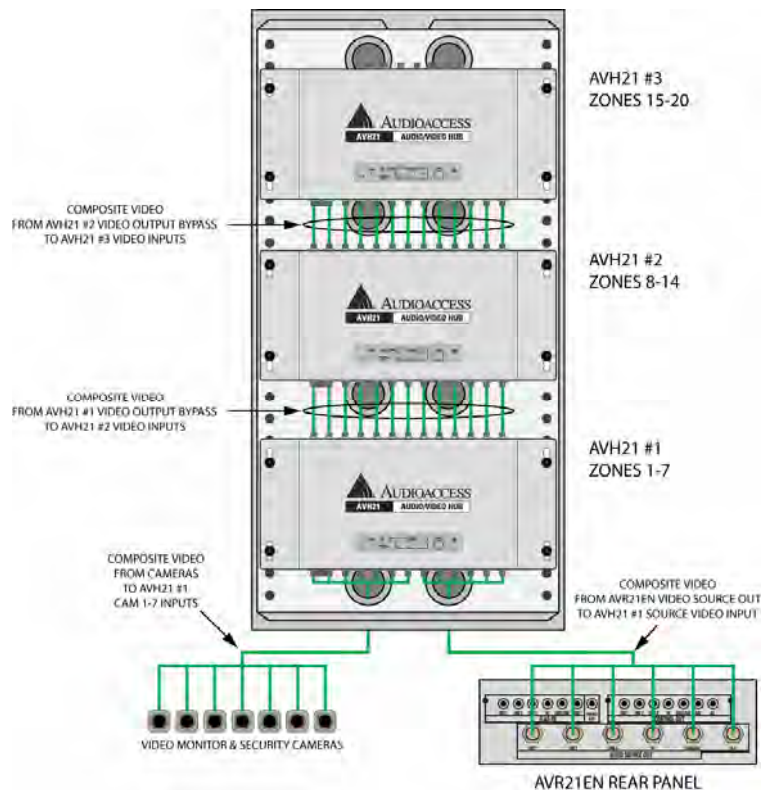

Figure 93 Source and Camera Video
1. Using RG6 Quad shield coaxial cable terminated with male F connectors, connect each of the **Video Source Out Terminals [circle 37]** on the AVR21EN Rear Panel to the appropriate **Source Video Input [pentagon 8]** on the AVH21 as shown in **Figure 93**.
2. In larger systems, complete step 1 above by connecting the **Video Source Outs [circle 37]** on the AVR21EN to the appropriate **Source Video Inputs [pentagon 8]** on AVH21 #1 as shown in **Figure 93**.
- a) Using short lengths of RG6 coax, connect each of the **Source Video Output Bypass Terminals [pentagon 1]** on AVH21 #1 to the appropriate **Source Video Input [pentagon 8]** on AVH21 #2 as shown in **Figure 93**.
- b) If using three Hubs, connect each of the **Source Video Output Bypass Terminals [pentagon 1]** on AVH21 #2 to the appropriate **Source Video Inputs [pentagon 8]** on AVH21 #3 as shown in **Figure 93**.
2. In larger systems, complete step 1 above by connecting zone video monitor or security camera composite video output to the appropriate **Camera Input [pentagon 7]** on AVH21 #1 as shown in **Figure 93**. Terminate the camera ends of the coax as appropriate.
- a) Using short lengths of RG6 coax, connect each of the **Camera Video Output Bypass Terminals [pentagon 3]** on AVH21 #1 to the appropriate **Camera Video Input [pentagon 7]** on AVH21 #2 as shown in **Figure 93**.
- c) If using three Hubs, connect each of the **Camera Video Output Bypass Terminals [pentagon 3]** on AVH21 #2 to the appropriate **Camera Video Inputs [pentagon 7]** on AVH21 #3 as shown in **Figure 93**.